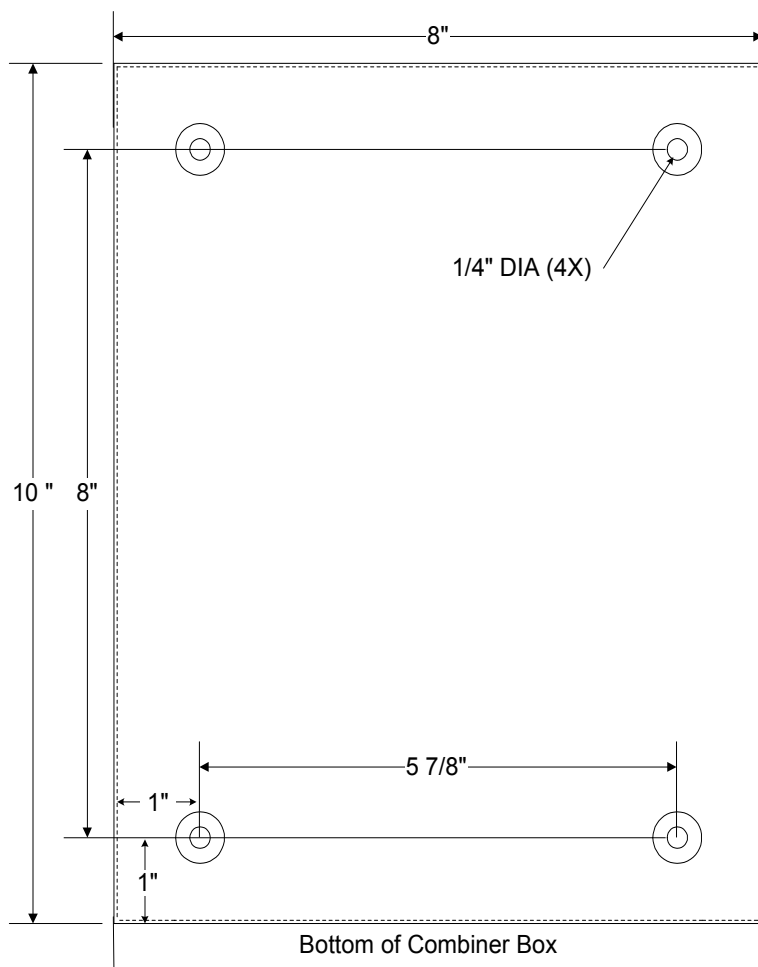

Figure 5
2. Using the dimensional drawing in Figure 5, mark the locations for drilling the mounting holes.